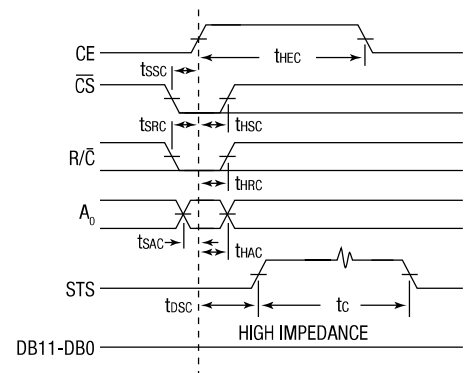

Figure 3. Start Convert Timing
- A conversion is initiated by a logic transition on any of the three inputs: CE, $\overline{\text{CS}}$, R/ $\overline{\text{C}}$. One, two, or all three may be dynamically controlled. The nominal delay for each of the three inputs is the same and if necessary, all three may change states simultaneously. If it is required that a particular input controls the start of conversion, the other two should be set up at least 50 nanoseconds earlier. (See Start Convert Timing, Figure 3).